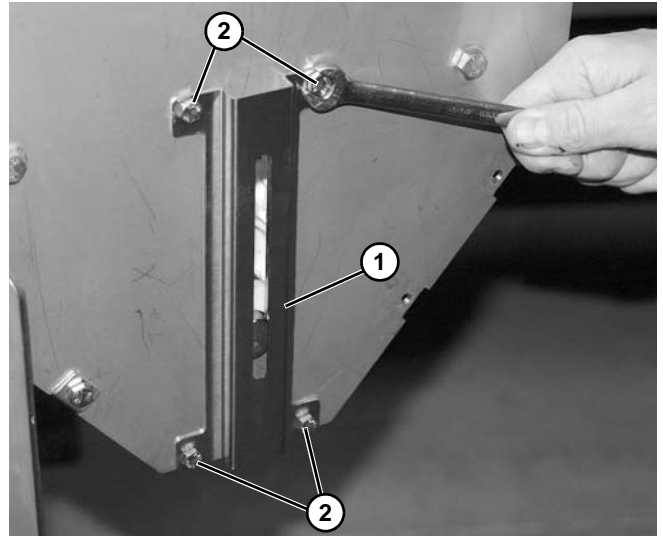

Figure 110
12. Install guard (**Figure 110, item 1**), with four hex head screws (**Figure 110, item 2**). Repeat on opposite side.